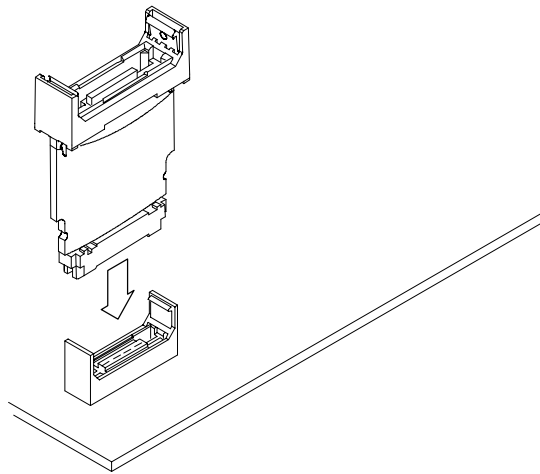

Figure 9: Connecting the Reduced Bias Voltage adapter
2. Position the adapter perpendicular to the Mictor connector and connect the adapter as show in Figure 9. The Mictor connector is keyed to prevent incorrect connections.